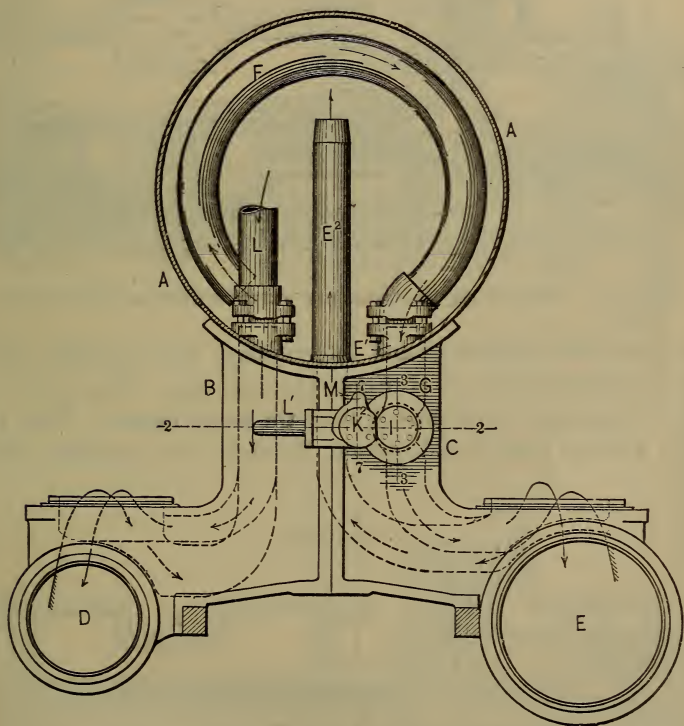
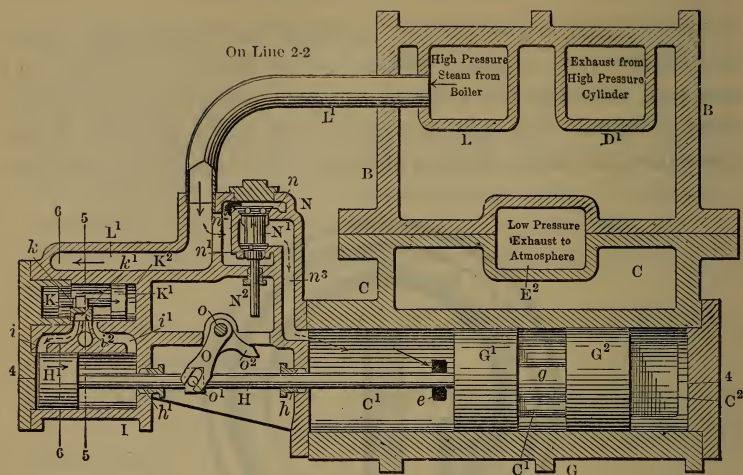
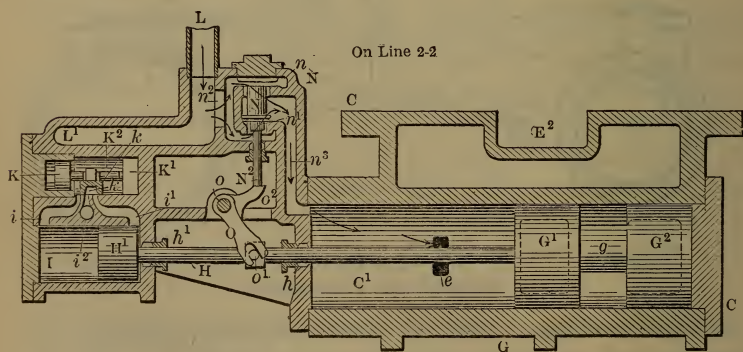

Fig. 332. Front Elevation (partly in Vertical Cross Section
Fig. 333. Schenectady Intercepting Valve in Compound Position.
Fig. 334. Schenectady Compound, Working both Cylinders with Live Steam (see page 528).
A. Fig. 332 shows a front elevation, partly in vertical cross section, showing the cylinders, their saddles, the smoke-box, the reservoir, intercepting valve and steam passages; Fig. 333
is a horizontal cross section through the intercepting valve and other valves relating thereto on the line 2, 2 of Figs. 332 and 334, showing the relation of parts when the intercepting valve is open. Fig. 335 shows a similar view of some of the same parts in the position which they take when the intercept-
ing valve is closed. Fig. 334 shows a vertical lengthwise section through the intercepting valve on the line 4, 4 of Fig. 335, with the valve open; this figure being also a section on the line 3, 3 of Fig. 332. Fig. 336 is a vertical cross section
through the regulating and intercepting valve-working division on the line 5, 5 of Figs. 333 and 334. Fig. 337 is a similar section on the line 6, 6 of the same figures. Fig. 338 is a vertical lengthwise section through the regulating divi-
sion on the line 7, 7 of Figs. 332, 336 and 337; Fig. 339, a vertical cross section through the intercepting valve on the line 8, 8, of Fig. 335. The feathered arrows show the course of the steam; the short unfeathered darts in Fig. 333 show
the movements of the regulating valve and the actuating piston of the intercepting valve. Fig. 332 shows a smoke-box *A* on saddles *B*, *C* connected respectively with a high-pressure
cylinder *D* and a low-pressure cylinder *E*, on opposite sides of the engine and having suitable pistons and induction and eduction ports (not shown). The exhaust-port of the high-pressure cylinder is connected by a pipe (shown in dotted lines in Fig. 332), with a reservoir *F*, the other end of which connects with the inlet pipe *E* of the low-pressure cylinder, in which the intercepting valve *G* is placed, and across which it reciprocates to open or close this passage. The intercepting valve and the apparatus which belong thereto are shown as mounted on the saddle *C* of the low-pressure cylinder-
der, while the live-steam connections and high-pressure exhaust divisions are on the other saddle *B*. The low-pressure exhaust pipe *E*² lies centrally between them. The intercepting valve *G* consists of two pistons *G*¹ *G*², Figs. 333, 334, 335, mounted at suitable distances apart, and in fixed relation to each other, on a stem *g*, and having a lengthwise perforation *g*¹ for the passage of the live steam through these valves or
A. As shown in Figs. 333 and 334, in which the intercepting valve is opened and the admission of steam to the low-pressure cylinder, except through the high-pressure cylinder reservoir and induction port E^1 , is cut off.
shown in Fig. 333, to that shown in Fig. 335. This causes the slide valve K^1 to uncover the ports i of the cylinder I , which in turn forces the piston H^1 to the right, closing the ports $G^1 G^2$ of the intercepting valve, as shown in Fig. 333. The relation of the ports is such that as the intercepting valve closes, the wiper o^2 strikes the stem N^2 of the poppet valve N^1 and opens it, thus letting live steam pass from the pipe L^1 through the passages $n^2 n^3$ into the intercepting valve cylinder and through the port e therein to the low-pressure cylinder E below the intercepting valve, thus operating it with the full pressure of the live steam. The intercepting valve, as before remarked, is already closed, and the tendency of the live steam is to press it upward in its seat, so as to prevent any leakage into the receiver and consequent back pressure upon the high-pressure cylinder. The perforations g^1 in the intercepting valve prevent the steam from exerting any endwise pressure upon it in either direction, and it is consequently entirely dependent upon the action of the live steam upon its piston H^1 in the actuating cylinder I . The intercepting valve should have sufficient lap to move slightly beyond its closing point, in order that the opening of the supply-valve N^1 may not take place until the intercepting valve is fully closed, the tappet o^2 being correspondingly adjusted.
A. The live steam is cut off from the low-pressure cylinder. The pressure in the receiver and the induction pipe E^1 then soon becomes sufficient to force steam through the return pipe M^1 into the auxiliary chamber M and force the regulating piston valve m into its seat, thus closing the ports l and j and simultaneously opening the port j^1 . The steam then passes through this last-named port and the port j^2 to opposite sides of the larger piston K^1 , the result of which is to force the slide valve k^1 to the left in the position shown in Fig. 332,
which opens the exhaust i^2 and the inlet i^1 of the cylinder I and forces the piston H^1 to the left, thereby opening the intercepting valve. This movement of the piston H^1 detaches the wiper o^2 from the poppet valve N^1 and allows it to close quickly before the intercepting valve opens. The parts having thus resumed the position shown in Fig. 333, the engine resumes its compound working.